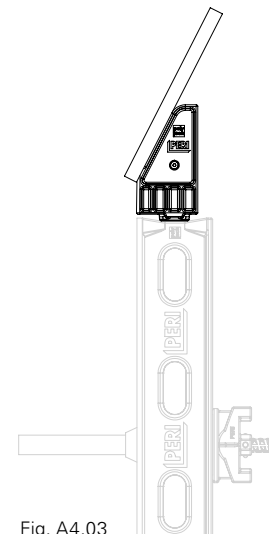

Fig. A4.03
- as a filler funnel (Fig. A4.03)